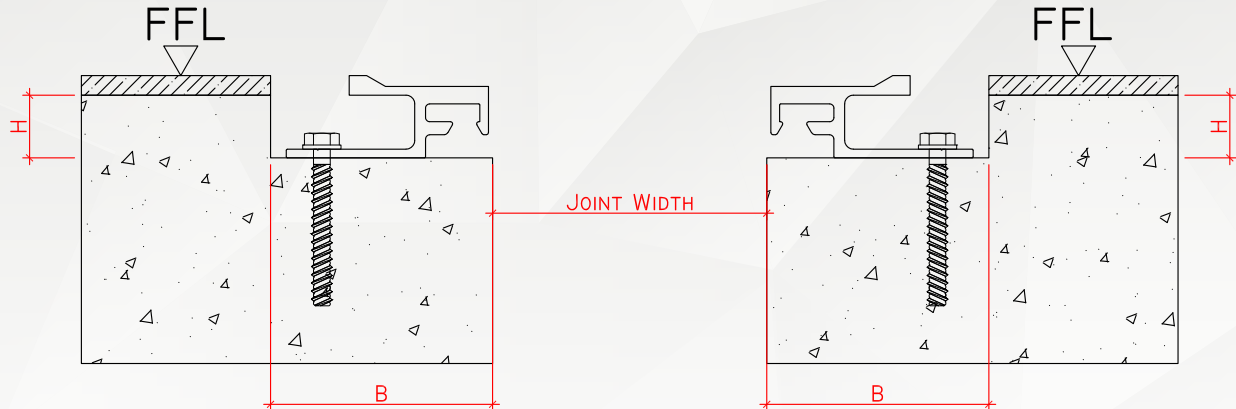

Figure 3.
9. Repeat the procedures given in Step 5 through Step 8 for the opposite base member (see Figure 3). Ensure that the base member is level, plumb, and properly aligned.